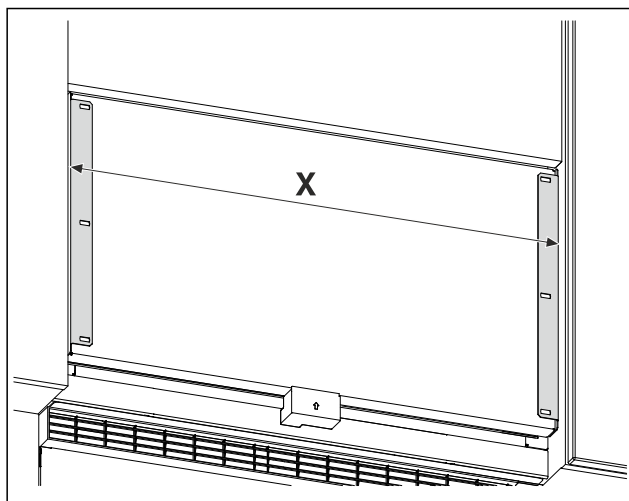

Fig. 27 Example illustration
- ▶ Measure the distance Fig. 27 (X) from the outside edge of the bracket angle.